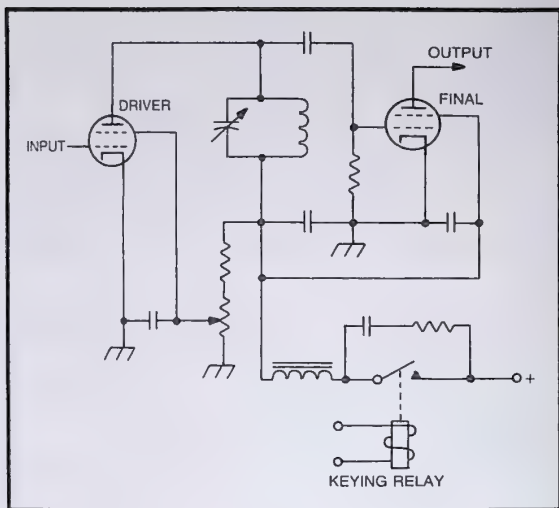

Fig. 3-31. Screen-grid keying.
**Screen-grid** keying is shown in Fig. 3-31. It is a actually a combination of driver stage and final stage keying. In this circuit, a keying relay must be used to prevent operator shock.